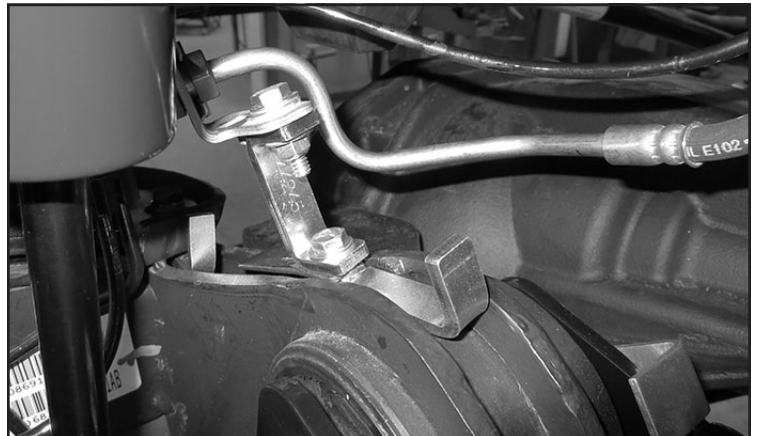

FIGURE 39 - STEP 33
33. Locate the FT44245 (Brake line extension bracket), FT44258 (nut tab) and 1/4" x 1" bolts, washers and nut. Attach the brake line extension to the axle using one bolt and the nut tab. Attach the factory brake line bracket to the Fabtech extension using a 1/4" X 1" bolt, nut and washers. Torque to 10 ft-lbs. Repeat this step on the passenger side. **SEE FIGURES 39**